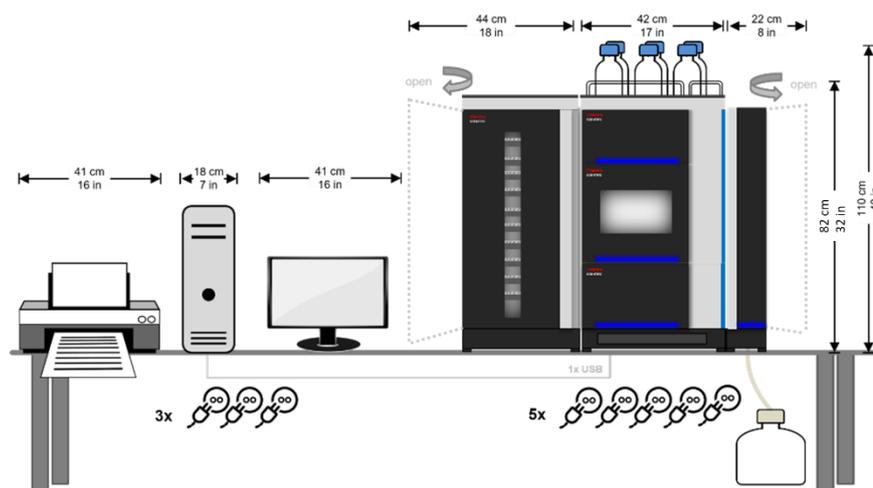

Figure 2: Recommended layout for a stand-alone Vanquish (U)HPLC System with the Charger and data system
Figure 2 shows the recommended layout for a stand-alone Vanquish (U)HPLC System with a Vanquish detector, column compartment, autosampler, pump, system base with solvent rack, and additionally a Charger module. Allow at least 210 cm (83 in) for the installation of the shown setup, including the data system and printer.